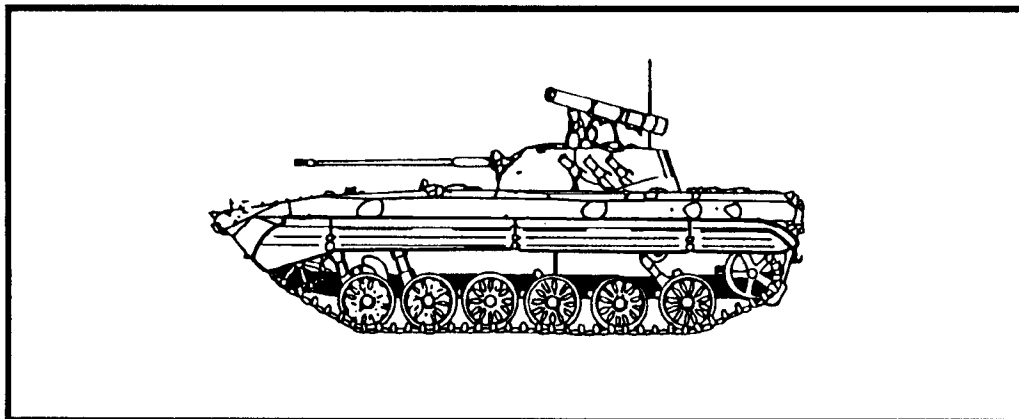

Figure F-1. BMP-2.
(1) *BMP-2* (Figure F-1). The BMP-2 is similar to the BMP-1, but with a major armament change from the 73-mm smoothbore of the BMP-1 to a 30-mm dual-purpose automatic cannon. The 30-mm gun has an effective range of from 2,000 to 3,000 meters, depending on the type of ammunition used, and 3,000 meters against subsonic aircraft and helicopters. Some BMP-2s have been seen with additional panels of applique armor mounted on the turret.